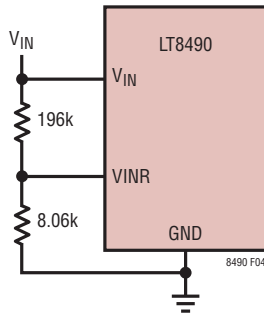

Figure 4. VINR Resistor Divider Circuit
**SELECTING POWER SUPPLY MODE:** When powered by a DC voltage source, the VINR pin must be pulled below 174mV (typical) to activate power supply mode. This disables unnecessary solar panel functions and allows the LT8490 to operate properly from a DC voltage source. If the application is never powered by a solar panel, VINR can be grounded. If the application is only powered by a solar panel, then connect VINR as shown in Figure 4. Otherwise, see the Optional DC Supply Detection Circuit section for a method to pull down the VINR pin when a DC supply is detected.